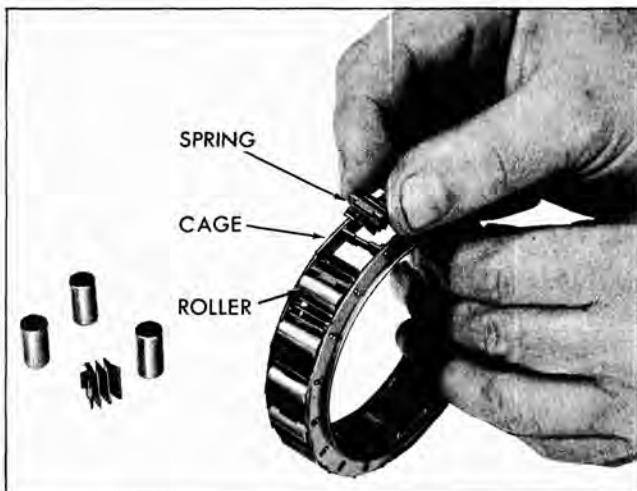

Fig. 93 Removing Roller Clutch Springs
3. Remove the rollers and energizing springs from the cage. (Fig. 93).
1. Install the release springs on the cage struts with the upper tab on the springs pointing the same direction as the teeth or stops on the sprag cage. Be sure the center spring tab snaps securely over the strut to retain the spring. (Fig. 93).